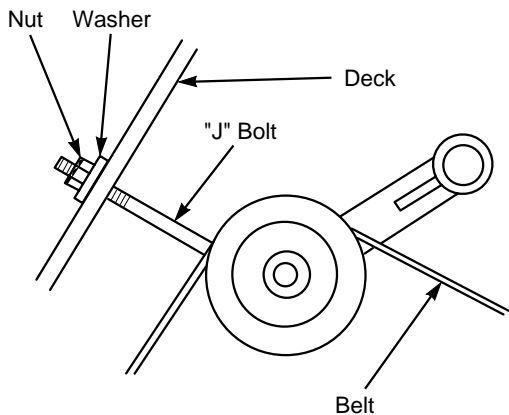

Figure 3. Cutter Deck Belt Adjustment R.H.
- Adjust the RH blade drive belt using a belt tension gauge. Adjust the belt so that the belt moves 1/2" with 10 pounds of pressure. Adjust the tension by tightening or loosening the J-bolt nut (See figure 3).